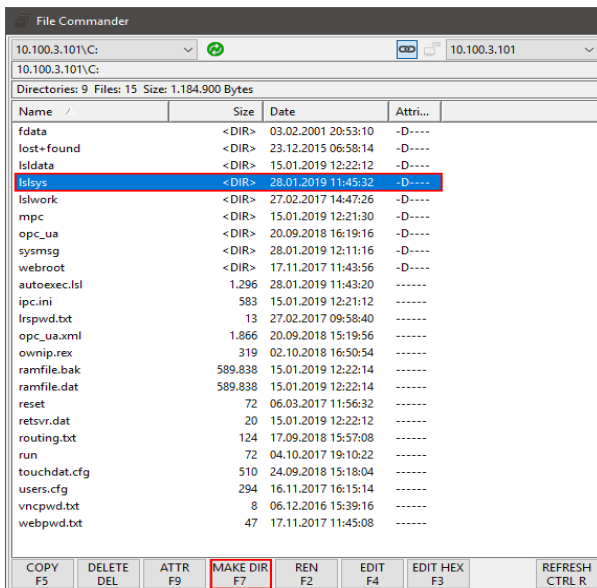
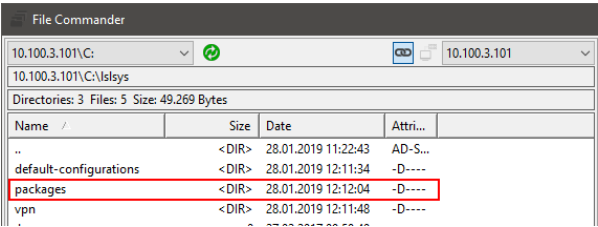

Figure 4.15 File Commander interface - Make Dir button highlighted.
Figure 4.16 Packages folder within C:\lsys
- a. To create a folder use "MAKE DIR" (Figure 4.15, Figure 4.16).